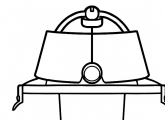

Figure 1
1. In Figure 1 - Fasten the locks on the side of the vacuum head with the tabs on the sides of the tank.
3. Unlock the side latches shown in Fig 1 and pull basket down